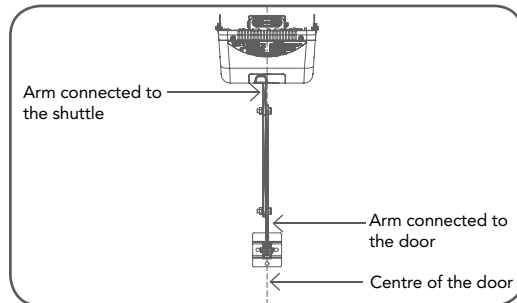

fig 19
- Secure the perforated angle (not supplied) to the ceiling above where drive unit's mounting holes will be. See (Fig.19) for a representative mounting.
- Assemble the bent arm(connecting to the door) to the right side of the straight arm (connecting to the shuttle) with bolts and nuts supplied in the accessory pack (**Fig. 19**). Always use both bent and straight arms.